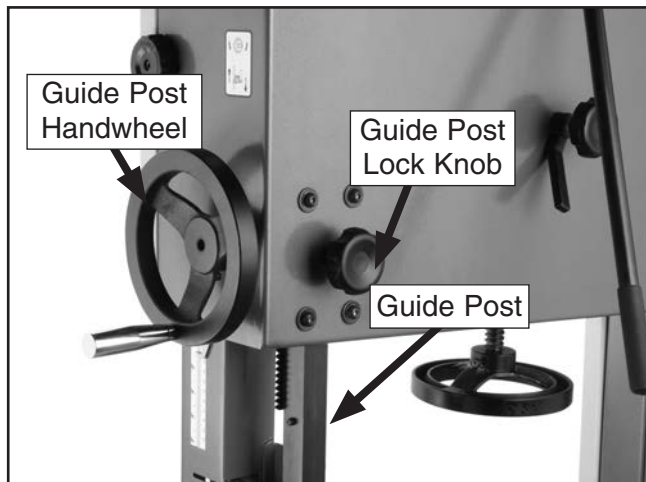

Figure 55. Guide post handwheel and lock knob.
The guide post, shown in **Figure 55**, connects the upper blade guide assembly to the bandsaw. The guide post allows the blade guide assembly to move up or down via a rack and pinion. In order to cut accurately, the blade guide assembly must be no more than 1" from the top of the workpiece at all times—this positioning provides the best support for the blade.
2. Loosen the guide post lock knob shown in **Figure 55**.